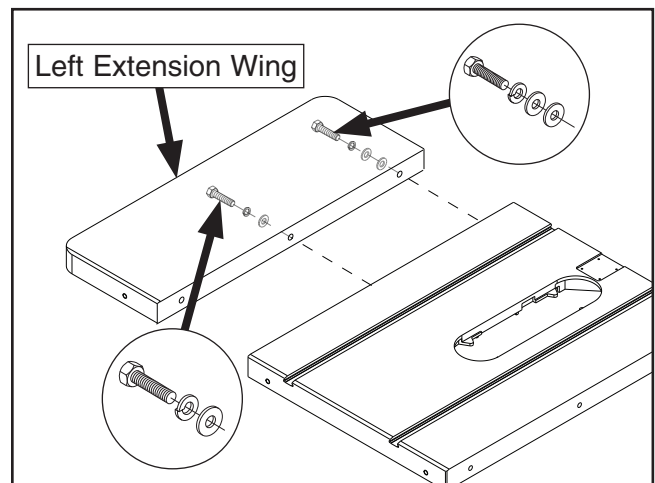

Figure 15. Mounting left extension wing to main table.
3. Have another person hold left extension wing in place, then mount it to main table with (2) $\frac{3}{8}$ "-16 x $1\frac{1}{4}$ " hex bolts, (2) $\frac{3}{8}$ " lock washers, and (3) $\frac{3}{8}$ " flat washers (see **Figure 15**).